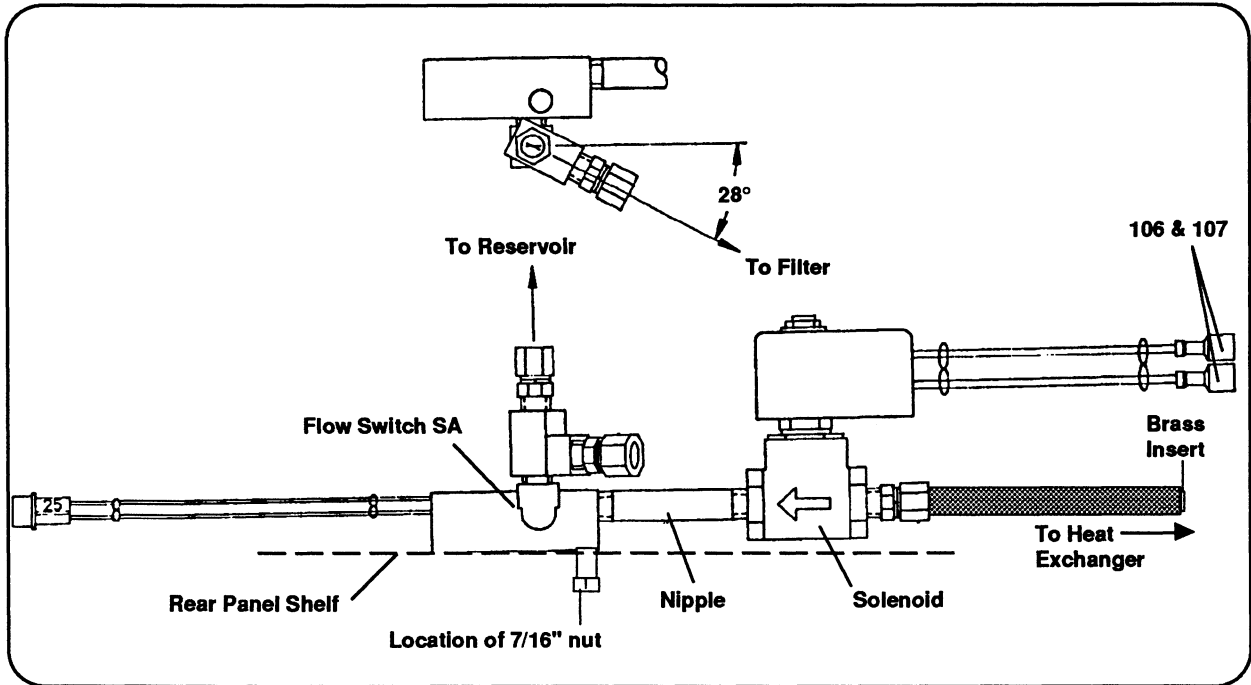

Figure 2 Flow Switch Subassembly and Solenoid
Now that the torch hosing and work cable are out of the way, the flow switch assembly and solenoid must be disconnected. See Figure 2 and proceed as follows:
10. Finally, using an adjustable or 7/16" open-end wrench, remove one nut securing the flow switch assembly from the MAX200 rear panel shelf. See Figure 2 for location of 7/16" nut.